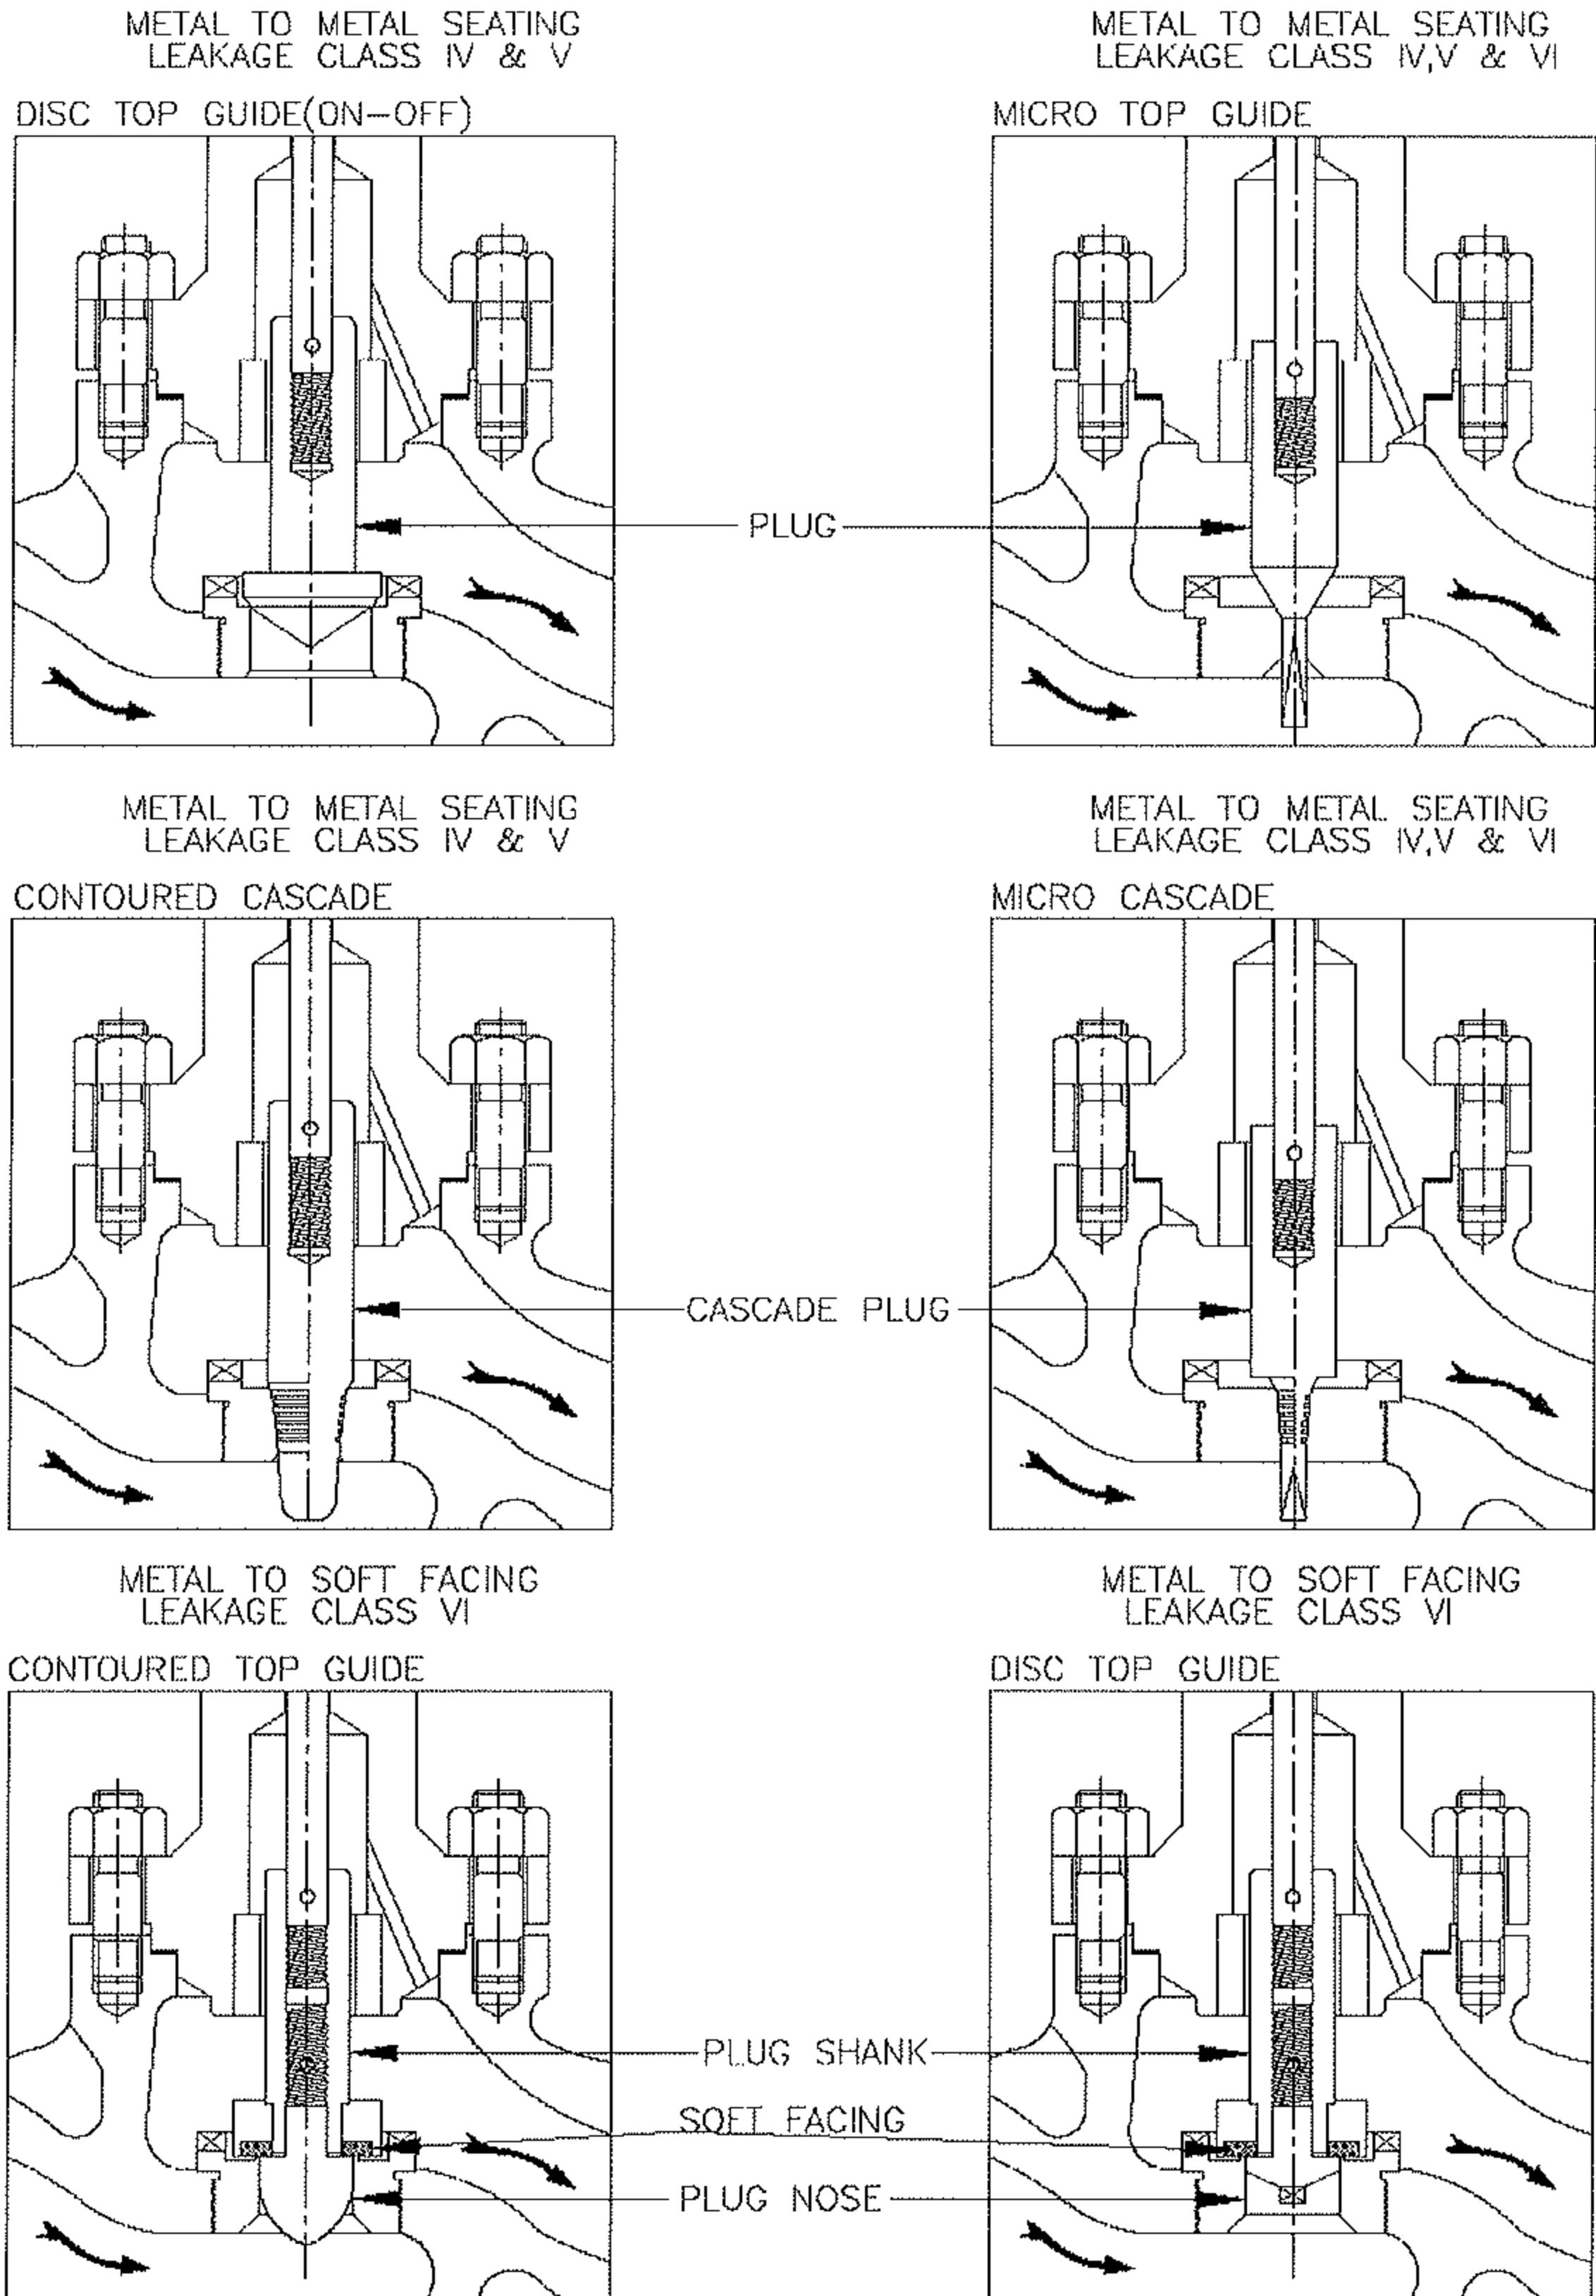

FIG.4
**For Soft Seated Plug Disassembly (Refer fig. 4)**